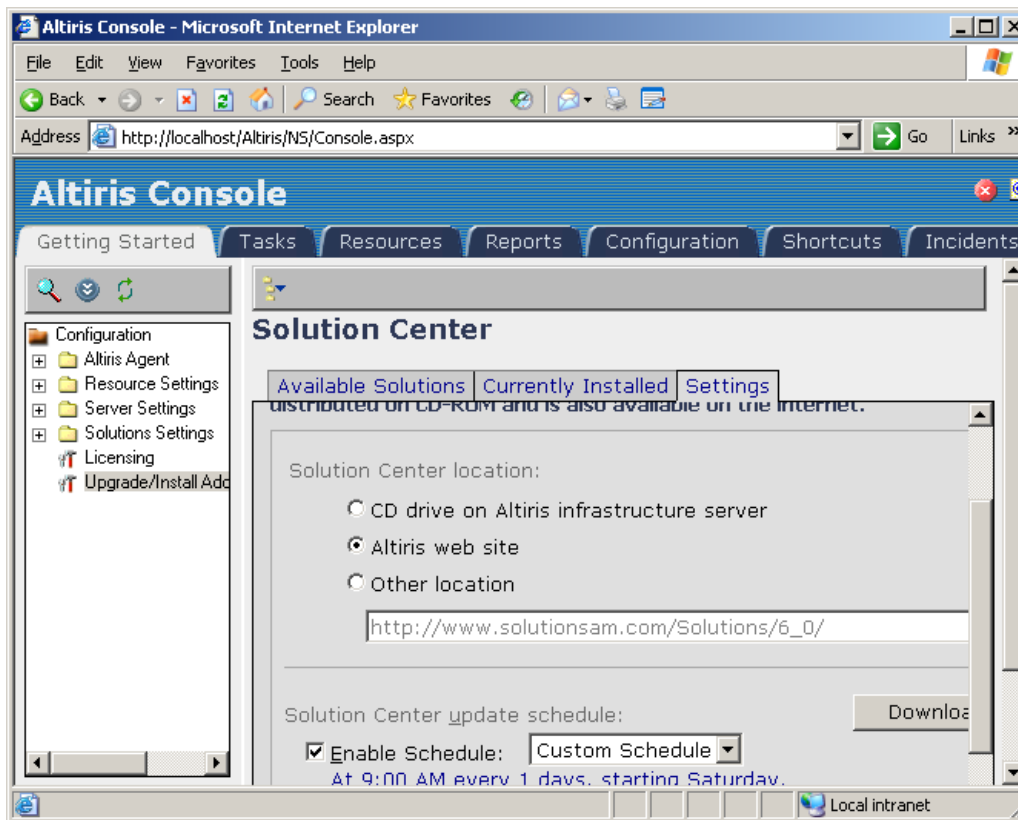

Figure 8-9 The Altiris Console
5. After the installation and configuration is complete, the Altiris Console can be launched from the Altiris folder in the Windows Start menu. Shown in Figure 8-9.